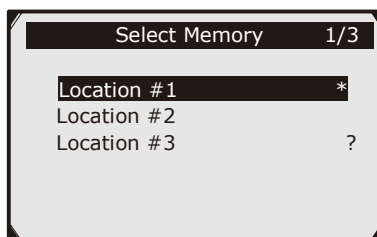

Figure 5.22
5. Use the **Up/Down** scroll button to select a memory location and press the **OK** button. (See **Figure 5.22**)